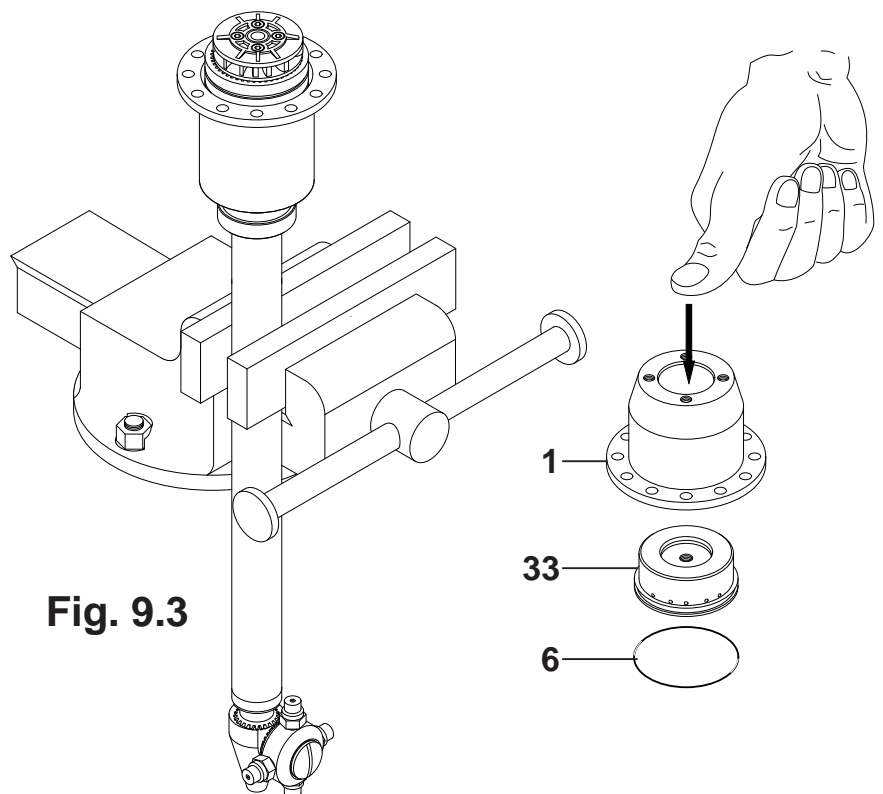

Fig. 9.3
9.2.3) Take the top casing pos. 1 off and push the diffuser kit pos.33 out (fig. 9.3) then replace after selecting the required diffuser, as in table "A" page 12.